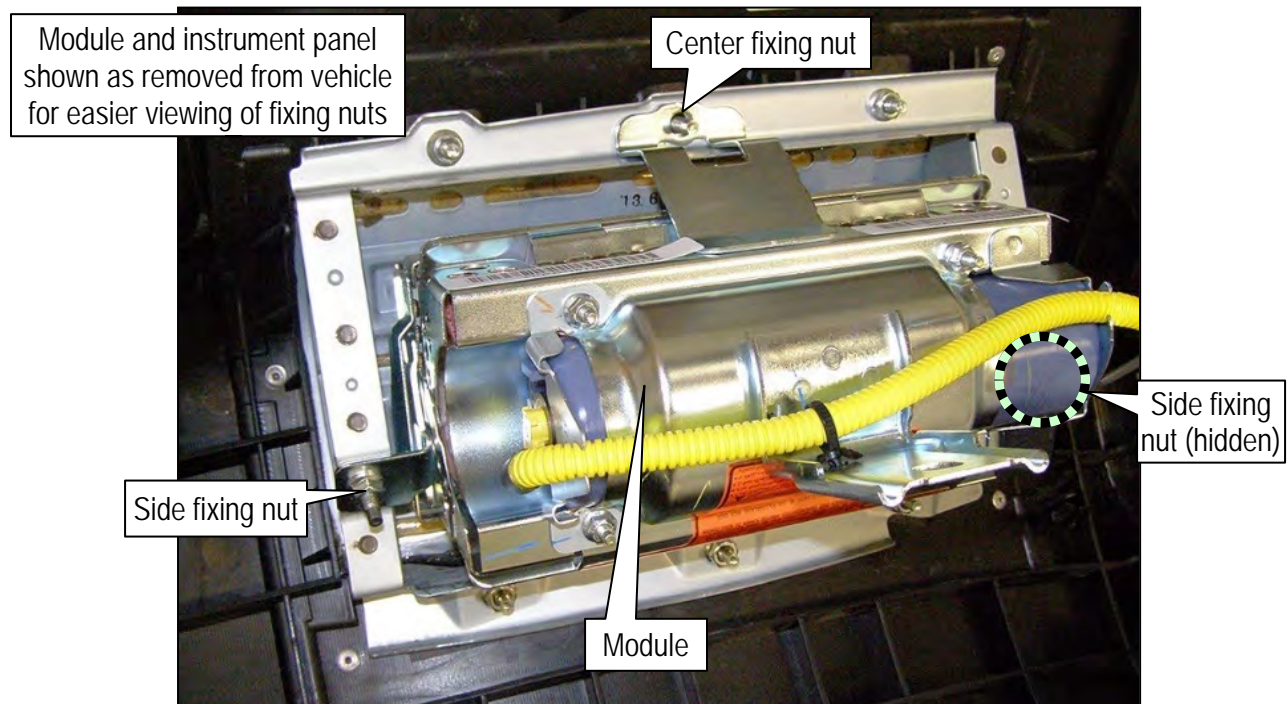

Figure 14
- a. Using the three (3) new fixing nuts supplied with the replacement module, secure the module mounting brackets to the supports on the back of the instrument panel.
- HINT:** One of the fixing nuts is hidden (Figure 14).